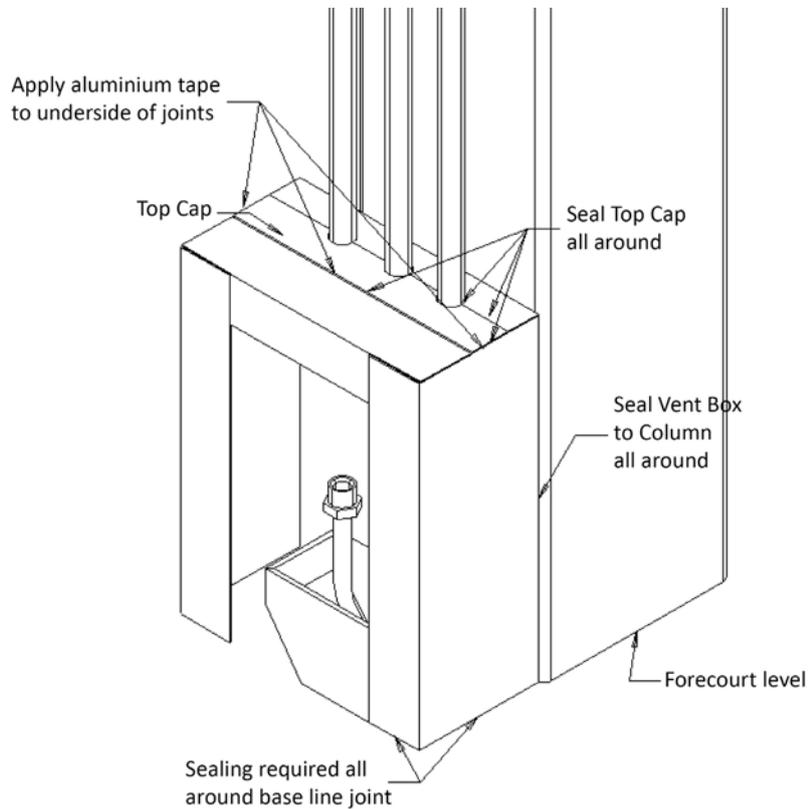

Figure 11. Vent Box Position and Sealing Specifications
- With the top cap of the vent box removed, insert the bottom end of the vertical pipes into the gap and manoeuvre the vent box up into position, behind vertical pipe assembly as shown in Figure 11, ensuring the base edge makes contact with the forecourt ground.
- Seal the cap from the inside using 50mm wide aluminium tape to provide a vapour seal. Also tape the top of the vent box to the column (refer to Figure 11).